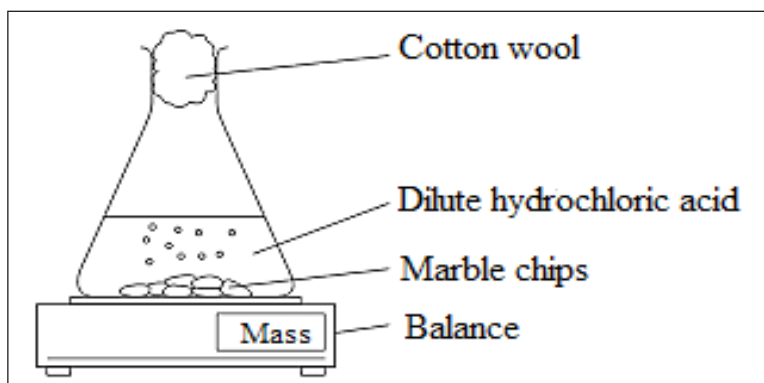

Figure 14.3: Measurement of the reaction rate following change in mass of reactants against time
2. Set up the apparatus as presented in figure 14.3.